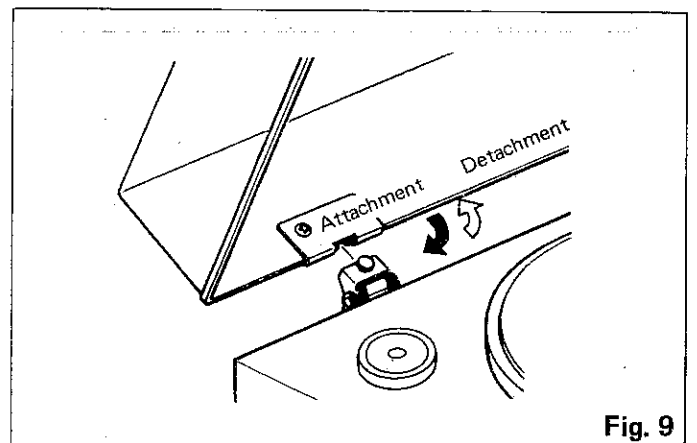

Fig. 9
3. ATTACHMENT OF DUST COVER (Fig. 9)